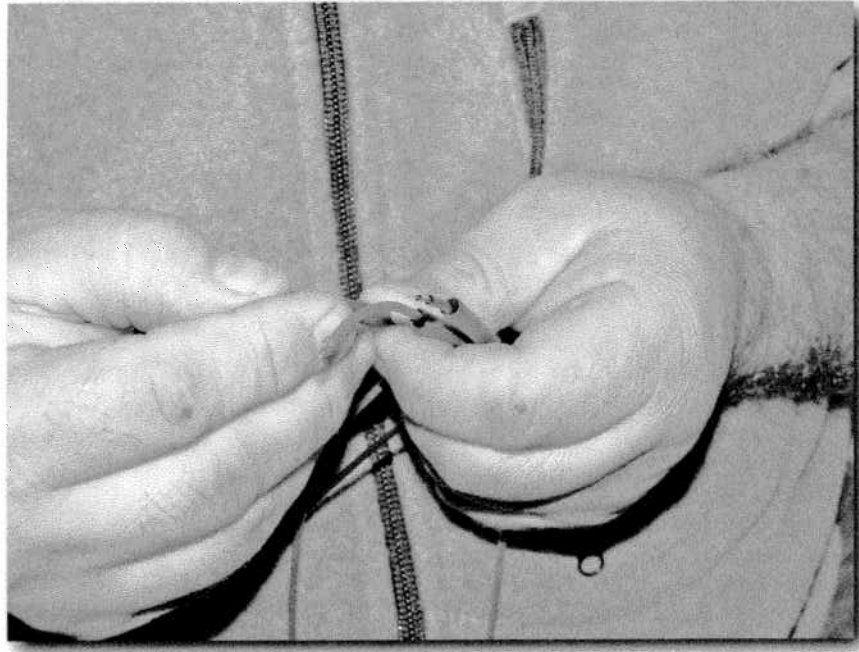

FIGURE 3-8: Put the shrink tubing over the wires.
2. Wrap the shrink tubing around the wires after you solder them, as shown in Figure 3-8.